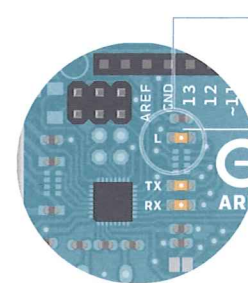

Fig. 2
- 7 A few seconds after the upload has completed, you should see the yellow LED with an L next to it start blinking. See Fig. 2. *If this is the case, congratulations! You've successfully programmed the Arduino to blink its onboard LED!*